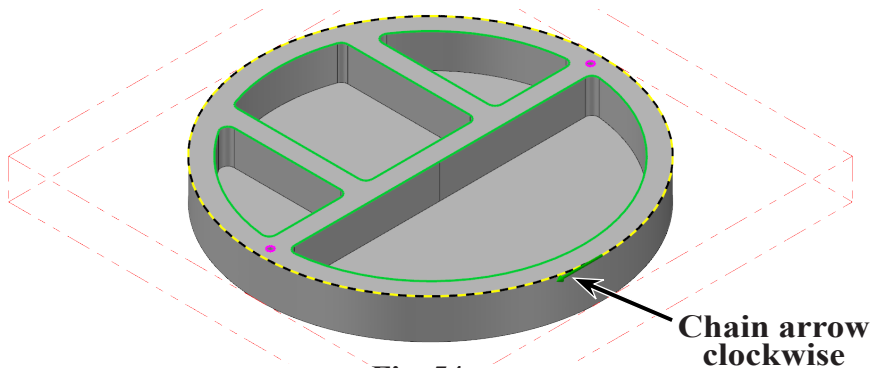
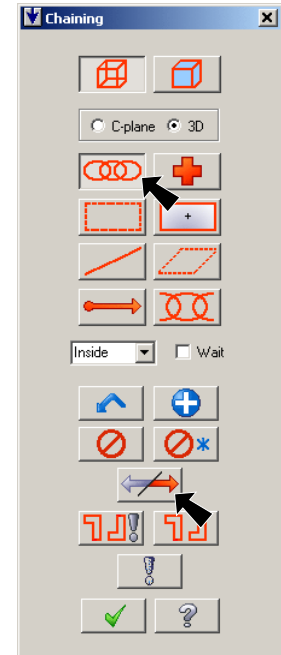

Fig. 54
Fig. 53
Step 3. Click **Chain**  (C) in Chaining dialog box, **Fig. 53**.
Step 4. Click **Base circle** to chain, **Fig. 54**. The chain arrow should point **clockwise** around the chain. If chaining directions arrow is pointing in the opposite direction - click Reverse , **Fig. 53**.